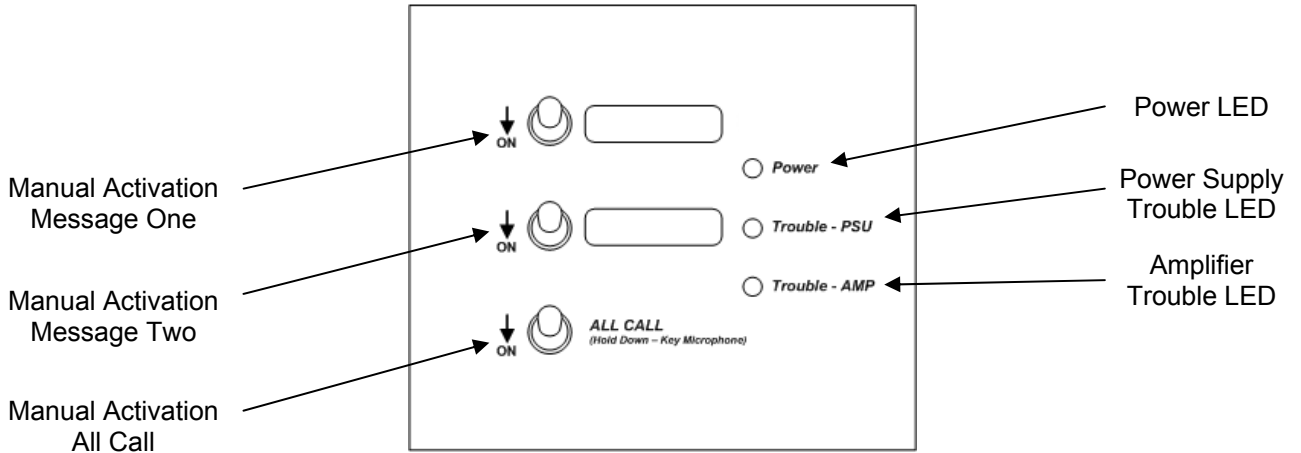
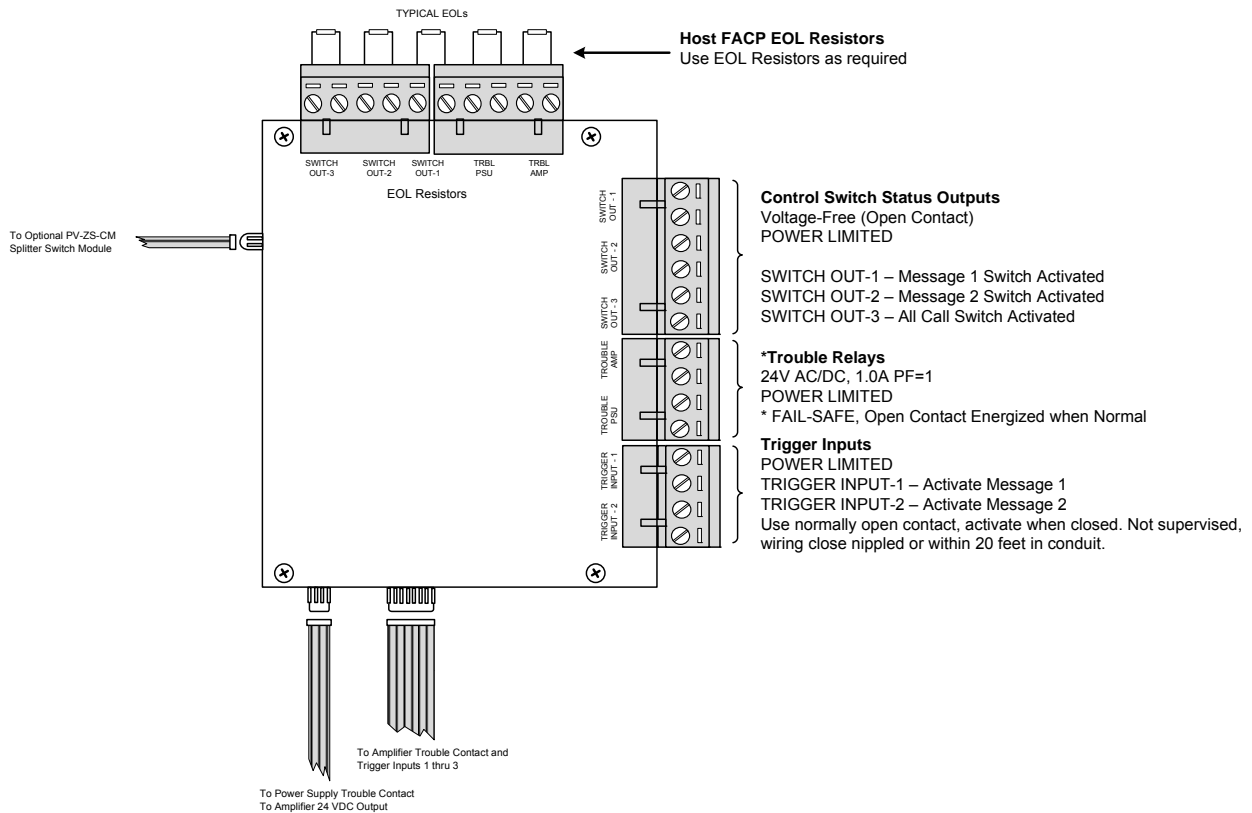

Figure 12 – PV-SM Switch/LED Module Controls and Status
Figure 13 – PV-SM Switch/LED Module Wiring
The PV-SM Switch/LED Module provides three (3) status LEDs and three (3) control switch's (see figure 12). In addition to providing the status indicators and control switches, the PV-SM Switch/LED Module also incorporates screw terminals for host panel interface for supervision and control of the PVE 802 Audio Panel (see figure 13).
With proper key access to the PVE 802 Audio Panel inner door, there are three (3) manual user controlled functions that can be performed; Activate Message One (latching toggle switch), Activate Message Two (latching toggle switch) and perform an All-Call live voice page (non-latching toggle switch – hold down to page)[see figure 12].
1. **Activate Message One (latching toggle switch)** – By moving the message one toggle switch to the on position, message one will be broadcasted out of both 40 watt speaker circuits of the PVE 802 Audio Panel. The message that will be broadcasted is based on the user programming for message one (see Section 6). If the user has not programmed message 1 the factory default message will be broadcasted; fire alarm evacuation message (Female Evac 3.wav) “Your attention please. Your attention please. A fire has been reported in the building. Please proceed calmly to the nearest exit. Please do not use the elevator”. When message 1 is activated via the PV-SM message one toggle switch, switch 1 (message one) status relay contact transfers from an open contact to a closed contact (see figure 13). This relay contact must be wired to the host fire alarm control panel to provide status that the PVE 802 Audio Panel has been manually activated.
2. **Activate Message Two (latching toggle switch)** – By moving the message two toggle switch to the on position, message 2 will be broadcasted out of both 40 watt speaker circuits of the PVE 802 Audio Panel. The message that will be broadcasted is based on the user programming for message 2 (see Section 6). If the user has not programmed message two the factory default message will be broadcasted; male all clear message (Male All Clear 1.wav) “All clear. All clear. All clear. It is now safe to return to your work area”. When message 2 is activated via the PV-SM message two toggle switch, switch 2 (message two) status relay contact transfers from an open contact to a closed contact (see figure 13). This relay contact must be wired to the host fire alarm control panel to provide status that the PVE 802 Audio Panel has been manually activated.
3. **Activate All-Call Live Voice Page (non-latching toggle switch – hold down to page)** – By moving and holding down the All-Call non-latching toggle switch to the on position and keying the PVE 802 integral microphone, live voice paging can be broadcasted out of both 40 watt speaker circuits of the PVE 802 Audio Panel. When live voice paging is active via the PV-SM All-Call toggle switch, switch 3 (All-Call) status relay contact transfers from an open contact to a closed contact (see figure 13). This relay contact must be wired to the host fire alarm control panel to provide status that the PVE 802 Audio Panel has been manually activated. In addition, by wiring the PVE 802 speaker circuit to Amp 1 and Amp 2 audio inputs of a VAB 802, this contact activation can be utilized as a command signal for the host FACP to activate the trigger input 3 of a VAB 802 for rebroadcasting of the PVE 802 microphone speaker circuit to the VAB 802.